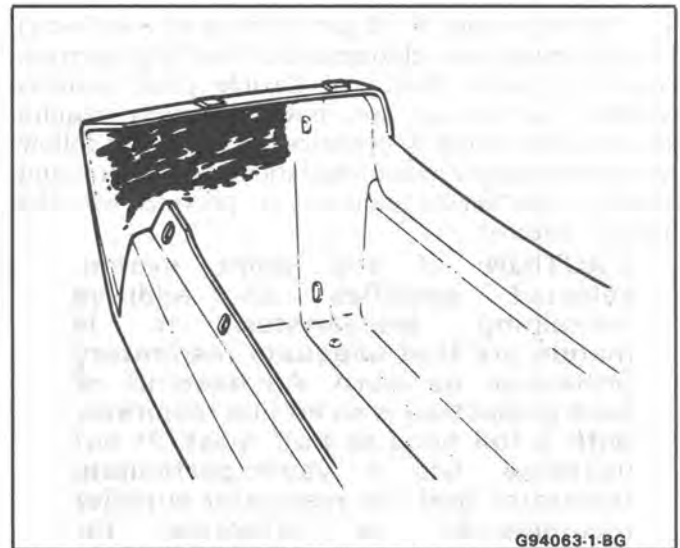

Fig. 23-Applying Repair Material - Back Side of Damage
- d. As in step 1c, thoroughly mix a quantity of adhesive and apply a layer of the mixture approximately 3 mm (1/8") thick on the back side of the part overlapping the break at least 38 mm (1-1/2") as in Figure 23.